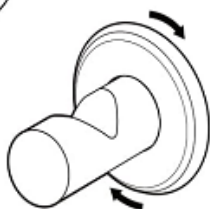

Fig. 11
- Use the provided screws to secure the bag hook in position, then take the escutcheon plate and screw it over the mounting plate to cover the mounting screws. **Fig. 11**